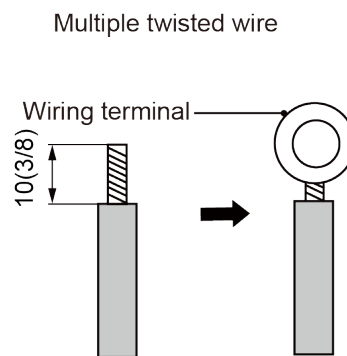

Fig. 5.2
- (2) The connection of stranded wire (as shown in Fig. 5.2).